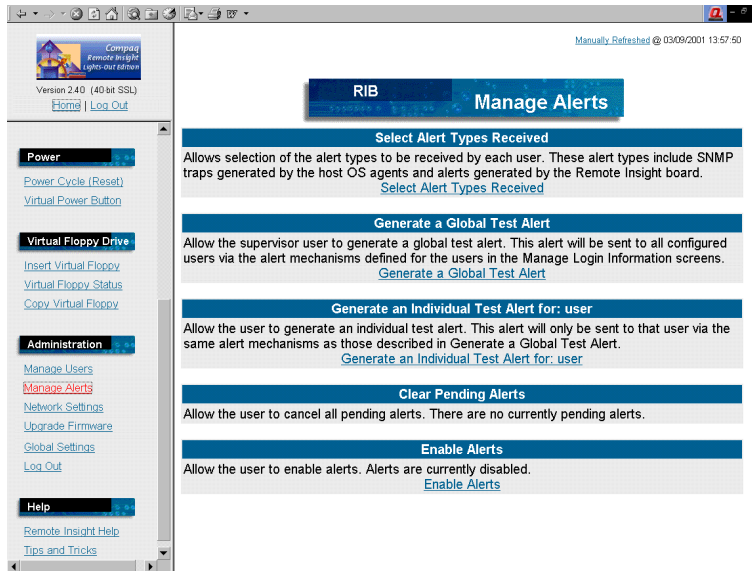

Figure 5-9. Manage Alerts screen
2. Click **Manage Alerts** in the **Administration** section of the **Remote Insight** navigation frame. A screen similar to Figure 5-9 displays.